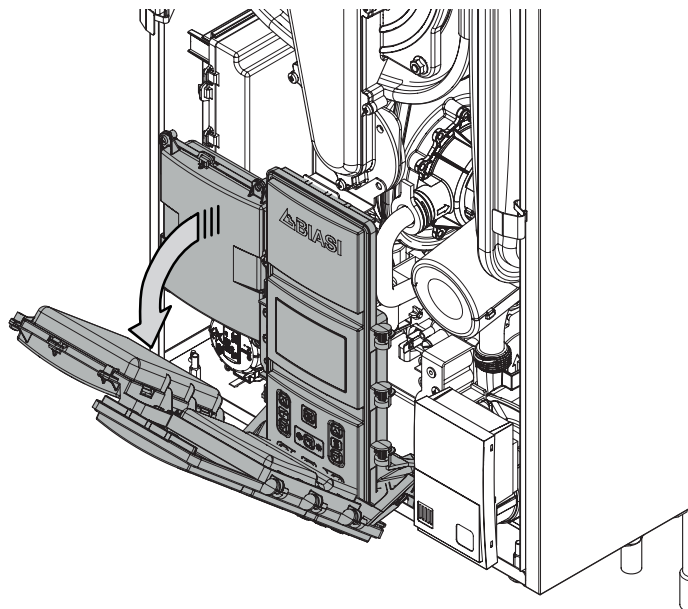

Figure 2.6
- 4 To access to the parts located behind the control panel turn it as shown in Figure 2.6.